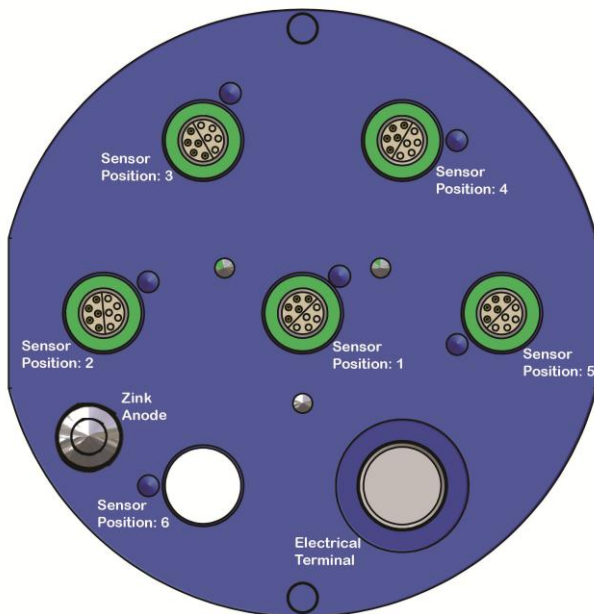
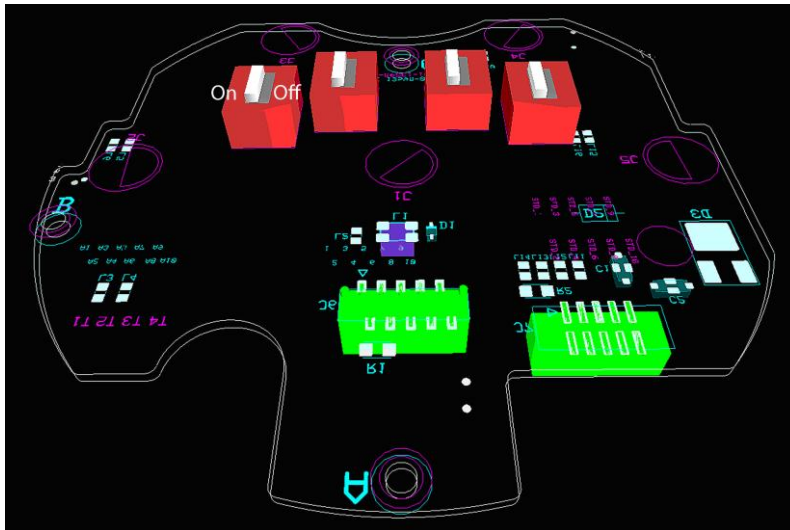
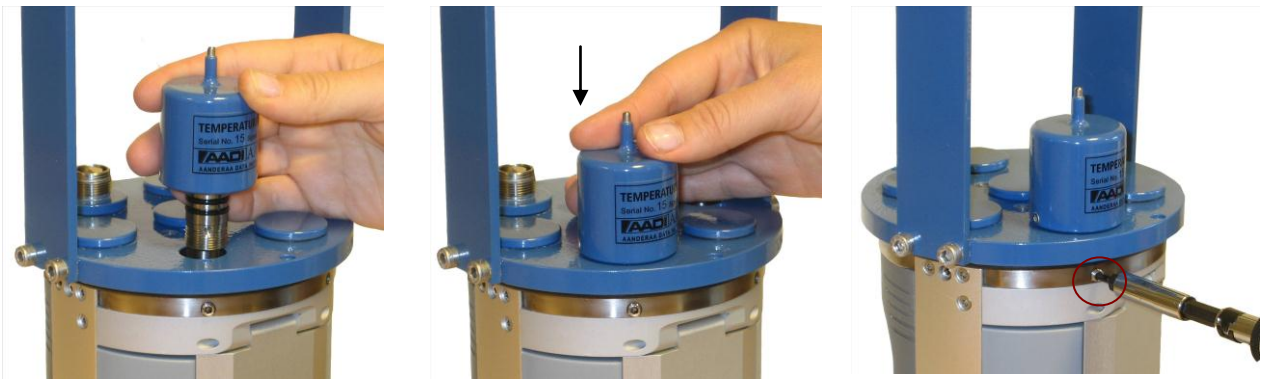

Figure 7-8 Top view of Top-end plate; Sensor Positions.
Figure 7-9 Drawing of HUB with 4 red Dip Switches at the back. AiCaP sensors installed: Switch to the right (off-position), Analog sensors: Switch to the left.
Figure 7-11 AiCaP sensors: Place the sensor according to the orientation pin. Push down the sensor and fasten the set screw.
3. Loosen the set screw that goes with the sensor position, refer Figure 7-11, rightmost illustration. Do not unscrew the set screw completely and remove it, as it might be lost.
- b. AiCaP sensor in position 1,2,3,4,5: Gently push down the sensor, refer Figure 7-11. Ensure that the red dip switch on the HUB is in *off* position, refer Figure 7-9.
- c. Analog sensor in position 2,3,4,5: Gently push down the connecting end of the cable. Set the red dip switch on the HUB in *on* position, refer Figure 7-9. Attach the analog sensor to the adapter end of the cable.
2. Remove sealing plug on top end plate marked with Electrical terminal in Fig. 7.8
3. Loosen the set screw that goes with the sensor position; refer Figure 7-11, rightmost illustration. Do not unscrew the setscrew completely and remove it, as it might be lost.
4. Disconnect the upper battery, refer procedure on page 72 and Figure 7-11. Unscrew and remove the two screws that hold the top front cover, refer Figure 7-12. Remove the top front cover. Follow option a or b depending on the type of sensor to disconnect/the sensor position on the Top-end plate (refer Figure 7-8):
- a. Sensor in position 1,2,3,4, and 5: pull up the sensor or the Analog sensor cable. If the removed sensor is an analog sensor: switch *off* the corresponding dip switch, refer Figure 7-9.